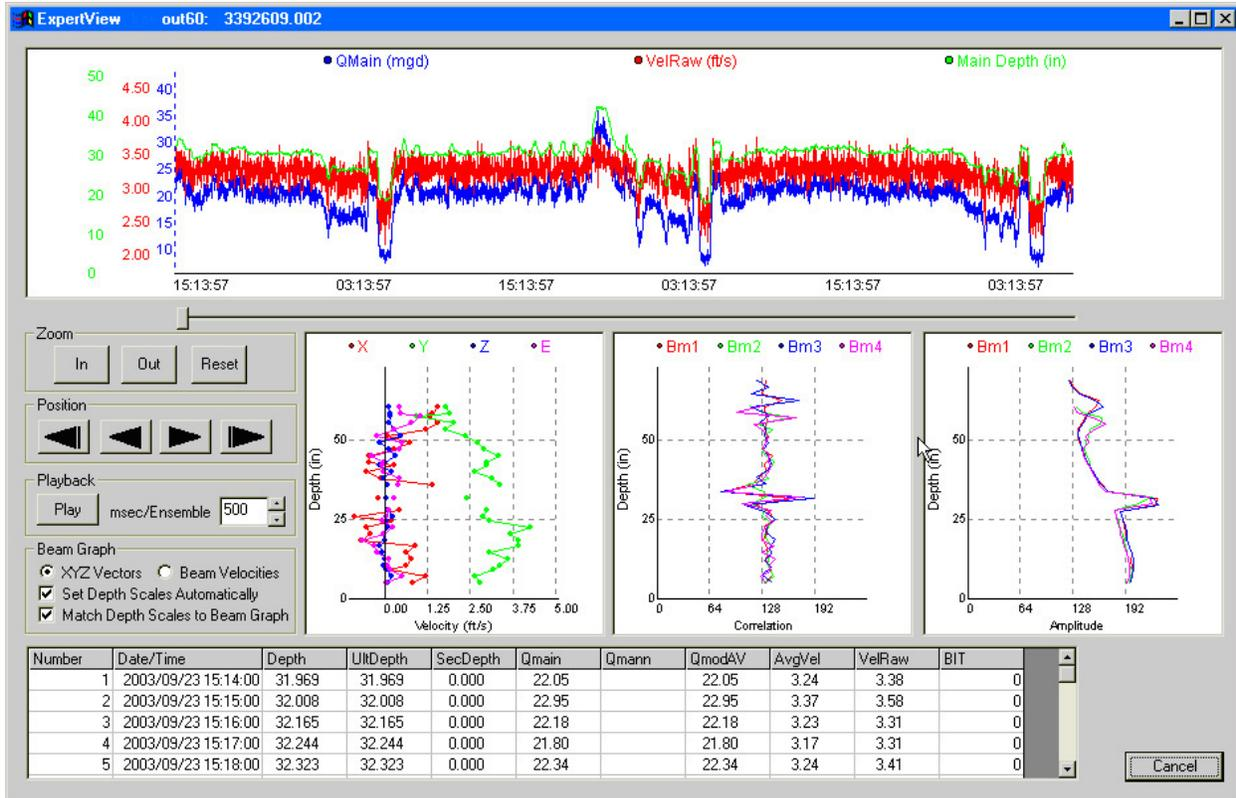

Figure 2-15 Real-time Data screen
- When the Real-time Data screen appears (Figure 2-15), click Exit. Disconnect the interface cable and exit the Operate screen. Exit the WinADFM software program.